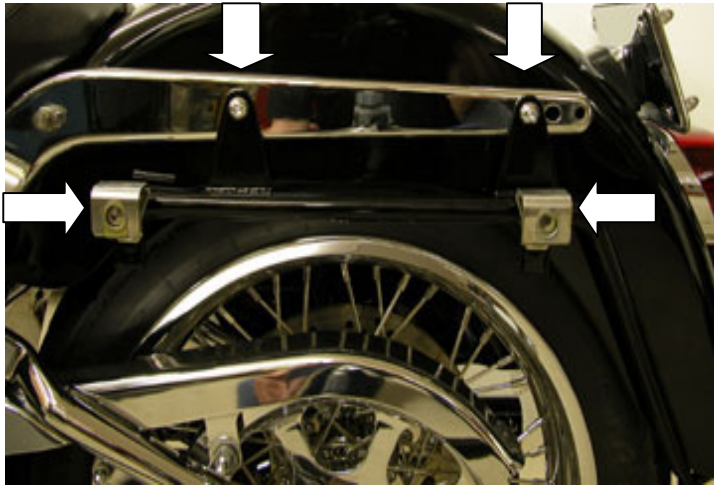

Figure 1
- 1 Bolt upper bag support to struts as shown in Figure 1. **Note:** There is a right & left side. Install HD® bracket (P/N 47449-97) as shown in Figure 1.